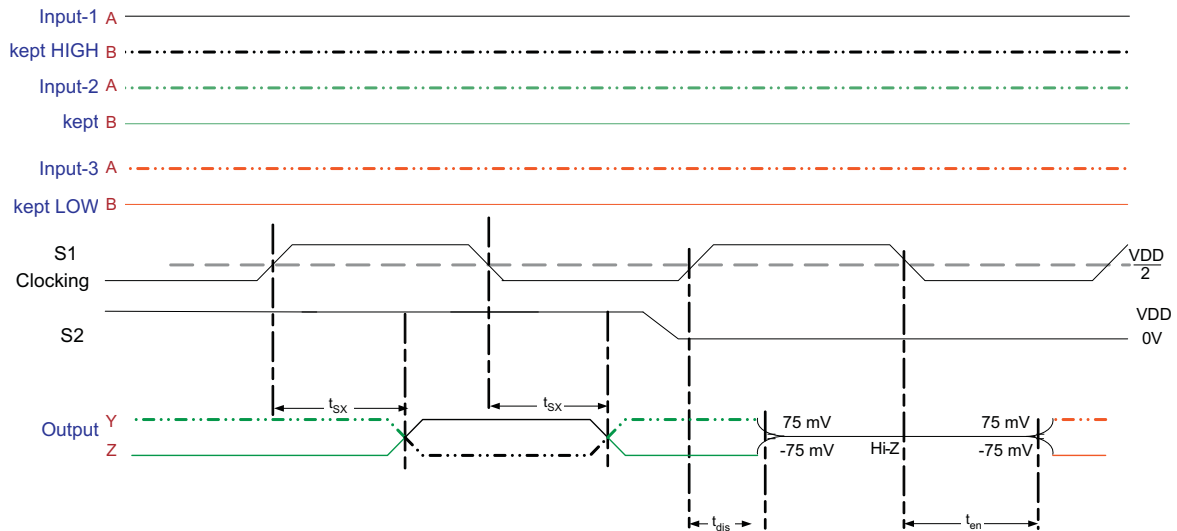

Figure 6. TMD5351 Outputs Control Timing Definitions
A. Channels 2, 3, 4, $V_{CC} = AV_{CC} = 3.3\text{ V}$, $T_A = 25^\circ\text{C}$, $R_{VSADJ} = 4.02\text{ k}\Omega$, See Figure 6
A. Channel 1, $V_{CC} = AV_{CC} = 3.3\text{ V}$, $T_A = 25^\circ\text{C}$, $R_{VSADJ} = 4.02\text{ k}\Omega$, See Figure 6
- A. 1080p 10-Bit, $V_{CC} = AV_{CC} = 3.3\text{ V}$, $T_A = 25^\circ\text{C}$, $R_{VSADJ} = 4.02\text{ k}\Omega$, See Figure 6, Clock Channel = 185.6 MHz, Data Channel = 1.856 Gbps
- A. 1080p 12-Bit, $V_{CC} = AV_{CC} = 3.3\text{ V}$, $T_A = 25^\circ\text{C}$, $R_{VSADJ} = 4.02\text{ k}\Omega$, See Figure 6, Clock Channel = 222.8 MHz, Data Channel = 2.228 Gbps